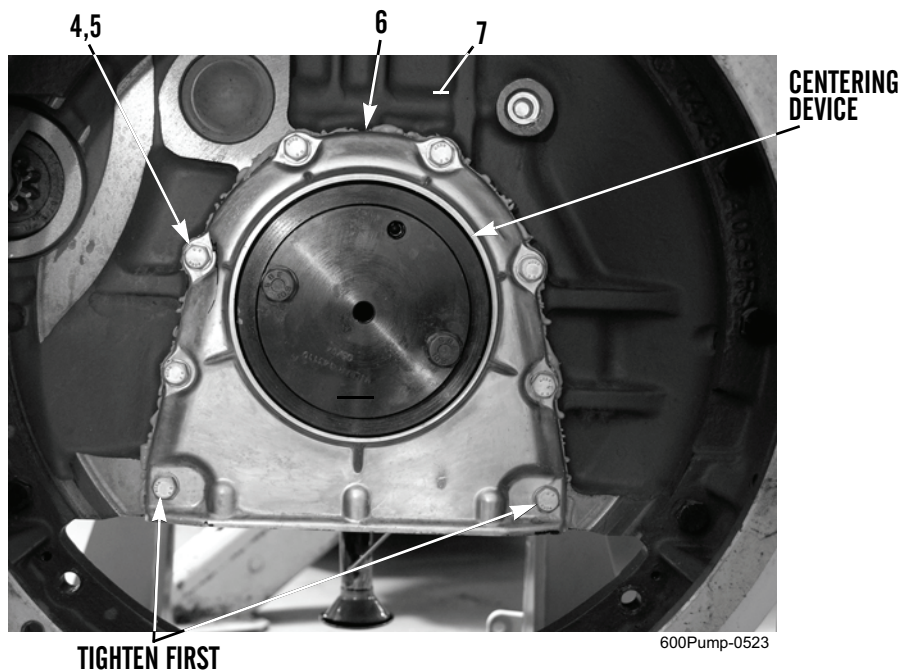

Figure 6. Installing Rear Cover.
- Apply RTV silicone compound to rear cover (Figure 6, Item 6). Install rear cover, eight washers (Figure 6, Item 5), and bolts (Figure 6, Item 4) on engine block (Figure 6, Item 7). Align rear cover with engine block, ensuring bottom edge of rear cover is flush with engine block.
- Tighten bolts (Figure 6, Item 4) to 15 to 18 lb-ft (20 to 24 Nm). Remove centering device.